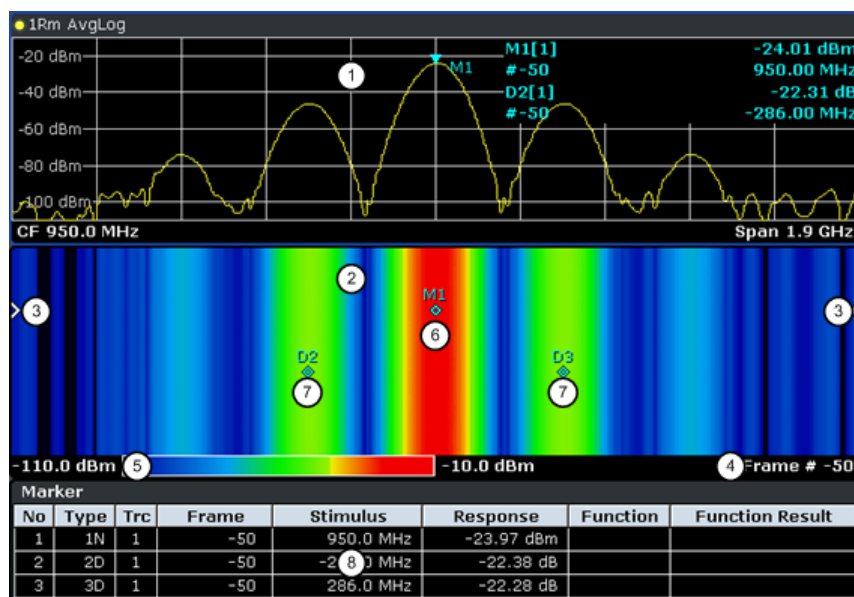

Figure 5-48: Screen layout of the spectrogram result display
- Spectrum Analyzer result display (1 in Figure 5-48)